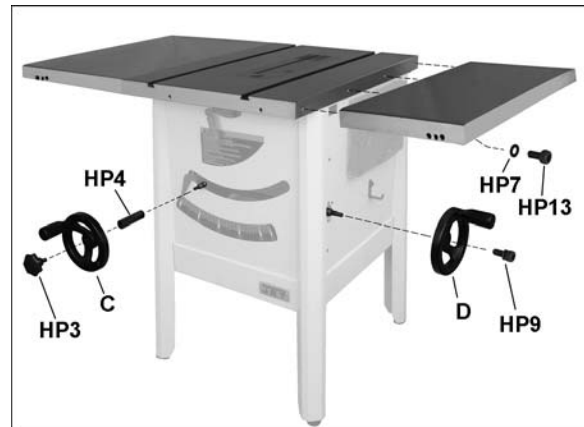

Figure 6-4
See Figure 6-4.
1. On front of table saw, slide spacer (HP4, Figure 6-4) onto shaft followed by handwheel with large mounting hole (C). The flat side of handwheel hole aligns with flat side on shaft.
3. Slide handwheel with small mounting hole (D) onto shaft on right side of table saw, aligning flat side of hole with flat side on shaft.